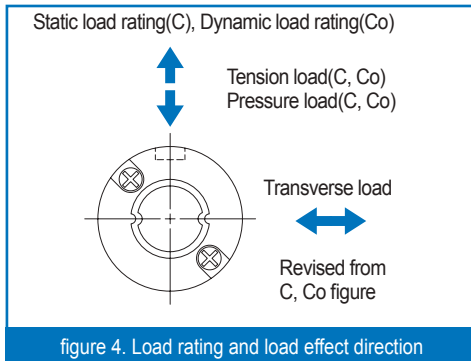

figure 4. Load rating and load effect direction
Each value of basic dynamic load rating (C) is stated in the catalogue. (Refer to Fig. 4)
Basic static load rating defines a static load to be given a regular contact stress in the middle of contacting portion both of a rolling body with the maximum load and a track. (Refer to Fig. 4)